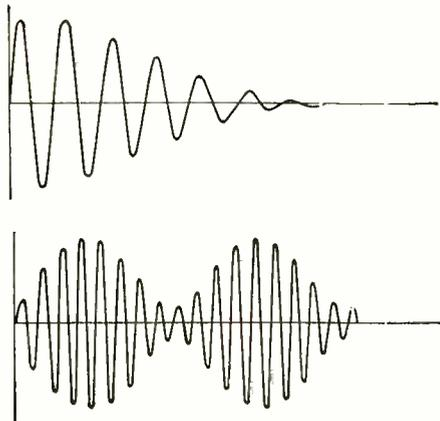

Fig. 1
**I**N the former article of this series published in the August issue, the author discussed the most important methods of detection for radio waves whose amplitudes varied, that is for radio waves such as sent out by the radio telephone broadcasting stations, and the spark telegraph signals sent out by most coastwise sailing ships. These radio waves when photographed by some form of oscillograph have the appearance shown in Fig. 1. The subject of the present article is the detection of radio waves whose amplitudes do not vary but are constant, such as are sent out by arc sets, the powerful alternators used for trans-Atlantic signaling, and